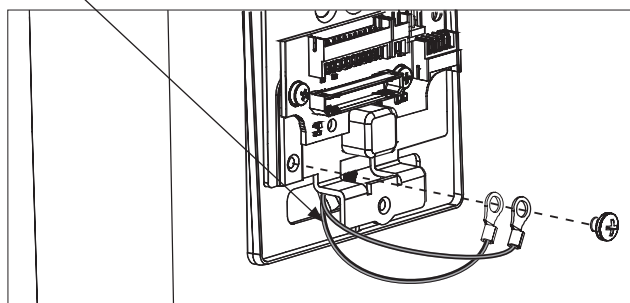

Figure 7-11B
2. Insert and partially tighten two (2) through-bolts prior to installation of connectors.
3. Secure ground lug(s) with #6-32 machine screw (Figure 7-11B).